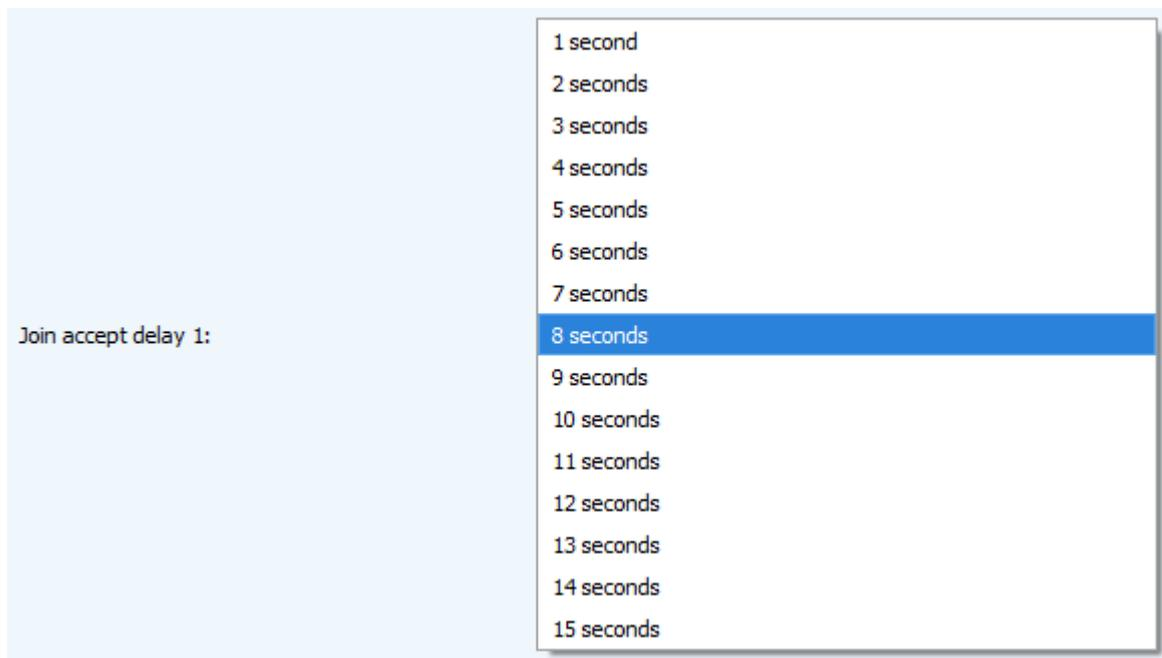

Figure 22 – Choice of the time for opening the first receiving window for join accept receiving
3.5.2.6 «Join accept delay 1» (not displayed in the "Simple" mode) – sets the time that the device will open the first receiving window to receive confirmation for the join request from the LoRaWAN network (fig. 22). The second window always opens after 1 second after the first.